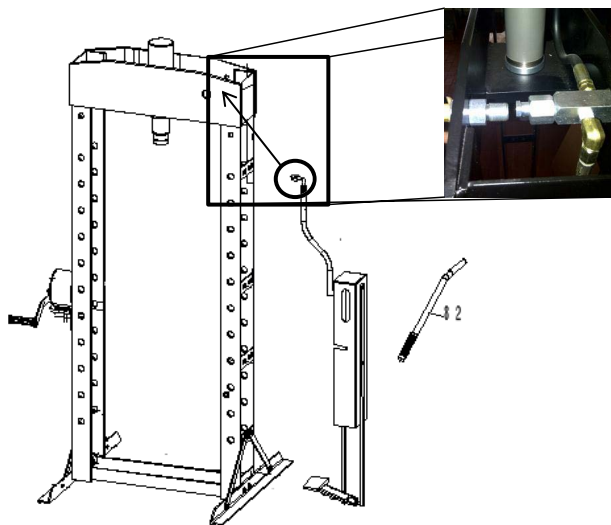

Fig. 11
- Assemble pump to the frame. Fig. 07 (CP86150), Fig. 09 (CP86200), Fig. 11 (CP86300 & CP86500).